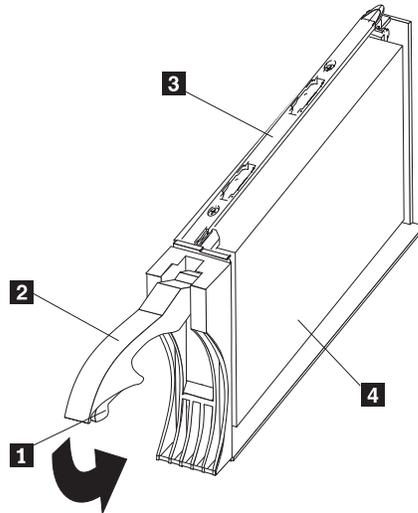

Figure 51. Releasing the drive latch
Note: The hard disk drive comes with a tray already attached. Do not attempt to detach the drive **4** from the tray **3**. See Figure 51 on page 61.
- a. Release the blue latch **1** on the drive CRU by pressing on the inside of the bottom of the tray handle. See Figure 51.